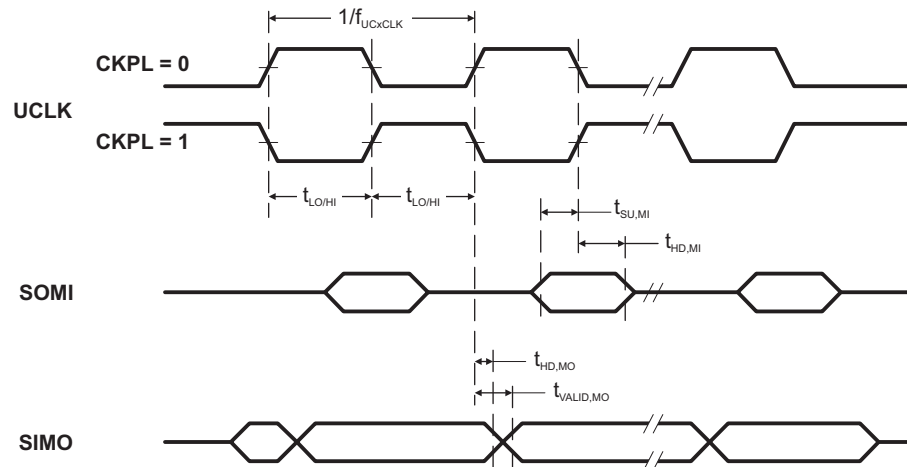
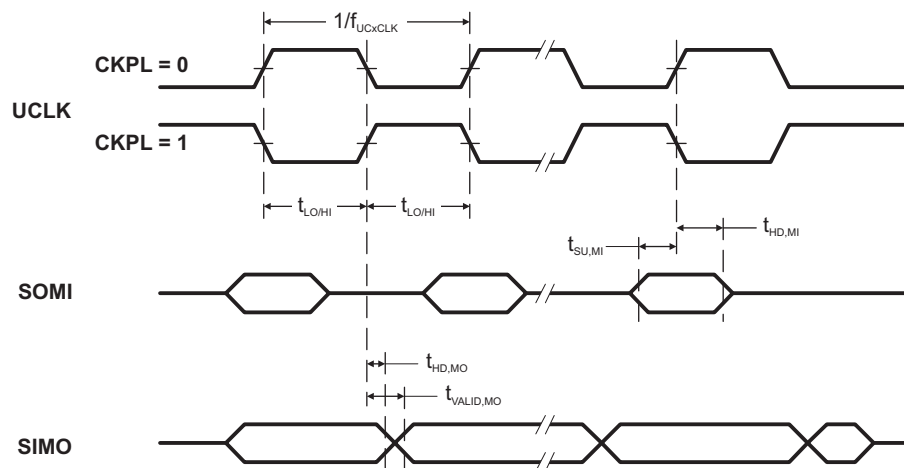

Figure 11. SPI Master Mode, CKPH = 0
Figure 12. SPI Master Mode, CKPH = 1
(see Note ⁽¹⁾, Figure 11 and Figure 12)
- (2) Specifies the time to drive the next valid data to the SIMO output after the output changing UCLK clock edge. Refer to the timing diagrams in Figure 11 and Figure 12.
- (3) Specifies how long data on the SIMO output is valid after the output changing UCLK clock edge. Negative values indicate that the data on the SIMO output can become invalid before the output changing clock edge observed on UCLK. Refer to the timing diagrams in Figure 11 and Figure 12.
- (2) Specifies the time to drive the next valid data to the SOMI output after the output changing UCLK clock edge. Refer to the timing diagrams in Figure 11 and Figure 12.
- (3) Specifies how long data on the SOMI output is valid after the output changing UCLK clock edge. Refer to the timing diagrams in Figure 11 and Figure 12.